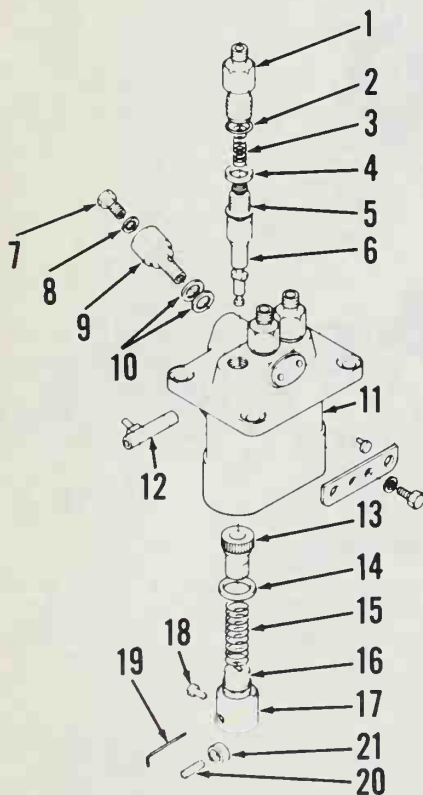

Fig. K2-1 - Exploded view of fuel injection pump.
INJECTION PUMP TIMING. Injection pump timing is adjusted using shims (16 - Fig. K2-2). To check injection pump timing proceed as follows: Disconnect high pressure line for number 1 cylinder from injection pump, then unscrew delivery valve holder (1 - Fig. K2-1) and remove valve spring (3) and delivery valve assembly (5). Reinstall delivery valve holder (1) and connect a suitable spill pipe to valve holder. Aim spill pipe at a receptacle to catch discharged fuel. Move throttle control to full open position. Rotate engine flywheel slowly in counter-clockwise direction until fuel just stops flowing from spill pipe. On
BLEED FUEL SYSTEM. To bleed fuel system, unscrew injection pump bleed screw (7 - Fig. K2-1), open fuel valve then install bleed screw when air-free fuel appears. Disconnect high pressure fuel lines from injectors. Rotate engine to operate fuel injection pump, then reconnect fuel lines when air-free fuel flows from fuel lines.